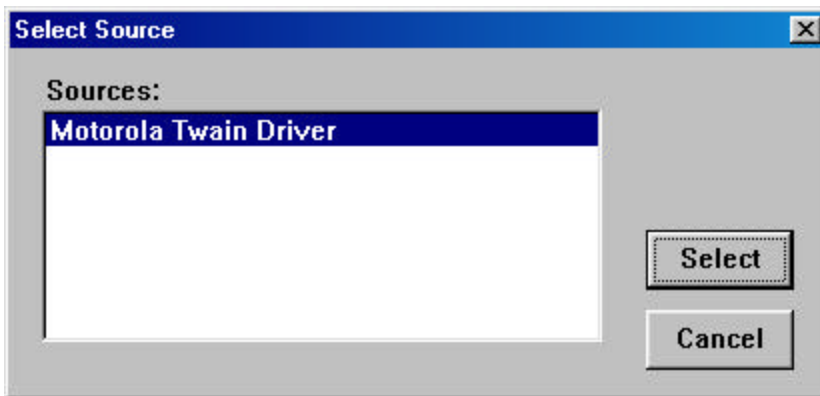

Figure 4-13
**Step 1)** Select the “Select Source” from the Twain sub menu. Choose “Motorola Coyote Twain Driver” from the list of sources. Then press SELECT. (See figure 4-13 below)